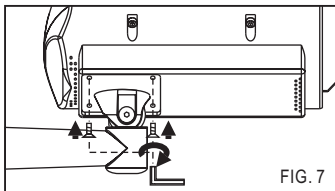

FIG. 7
4. Next, use the provided 1/4"-20UNC screws (silver-4pcs) to fix the camera body on the bracket with hexagon screw driver (FIG.7).